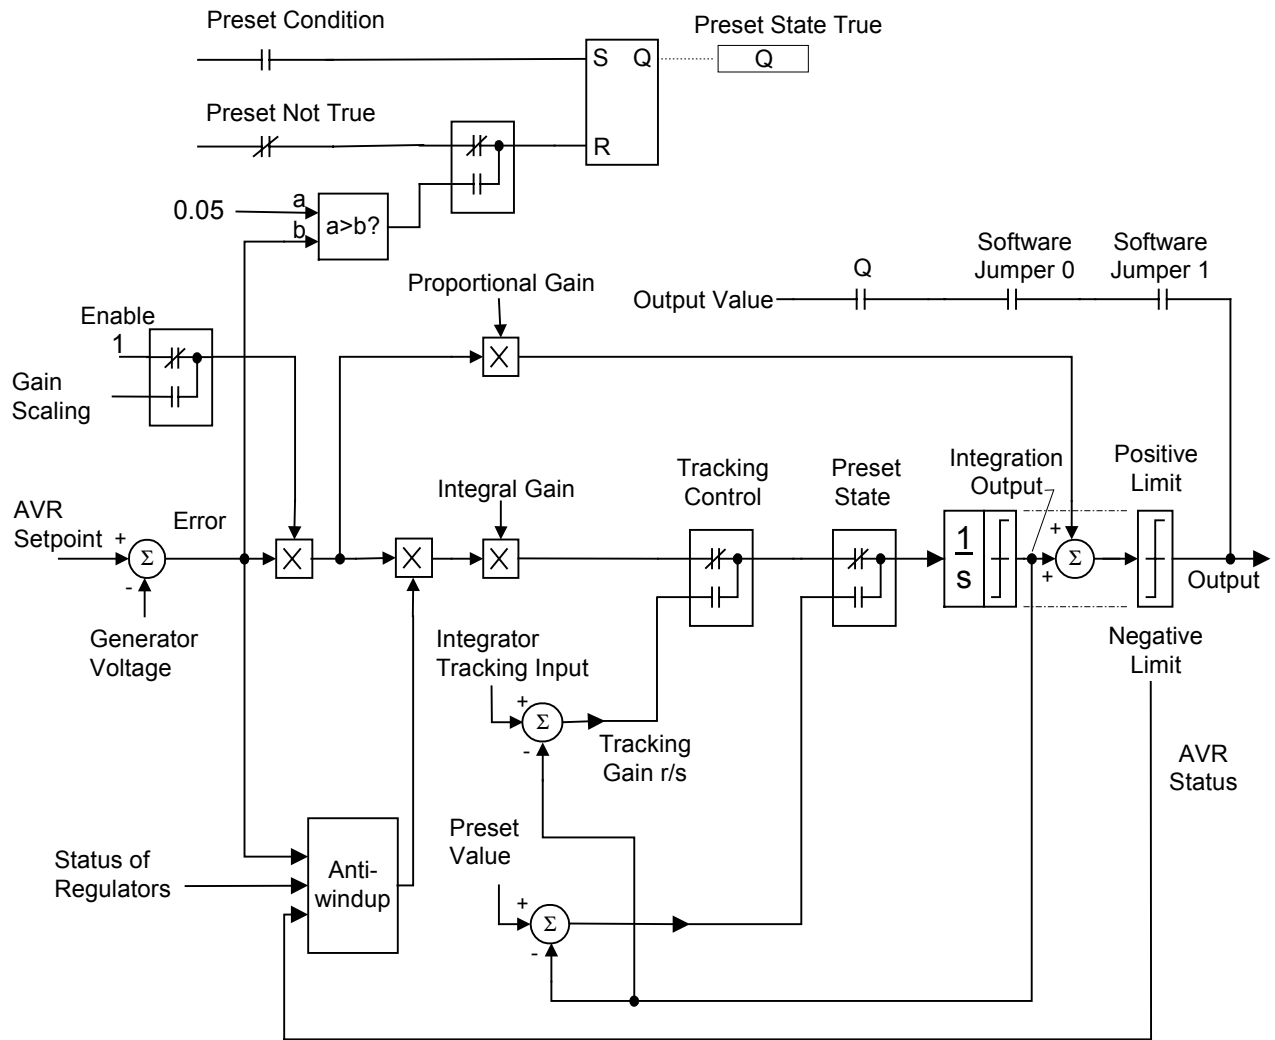

Figure 2-12. Automatic Voltage Regulator Block
The AVR block maintains the generator terminal voltage. The setpoint (reference) comes from the EXASP block, and the feedback is the generator voltage. The error value is input to a proportional plus integral (PI) regulator with integrator windup protection, which produces an output signal. Figure 2-12 shows the block diagram. When the AVR is enabled, the AVR output is passed through directly from the track input to the output of the Field Voltage Regulator (FVR).